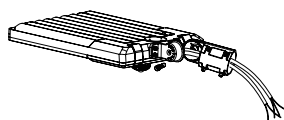

Fig 2
Step 2: Run the wires through the bracket. (Fig.2)